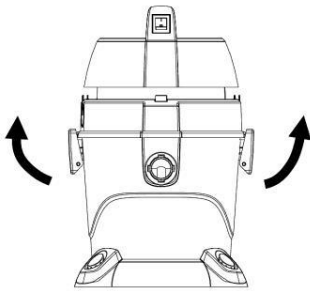

Fig.1
**Step 1:** Release the side latches and remove the main body (Fig. 1).